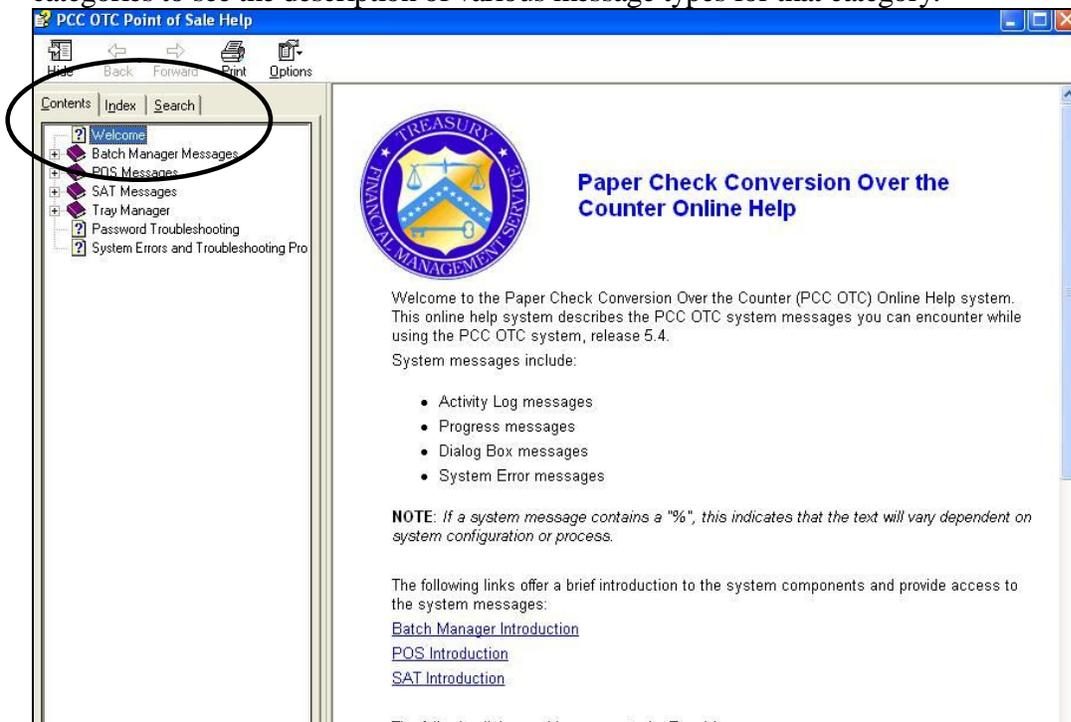

Figure 2.32
- Contents – Displays a welcome to the PCC OTC Online Help screen. Contents also displays a menu of POS messages (left side of screen) as displayed below in Figure 2.32. Click on any of the categories to see the description of various message types for that category.